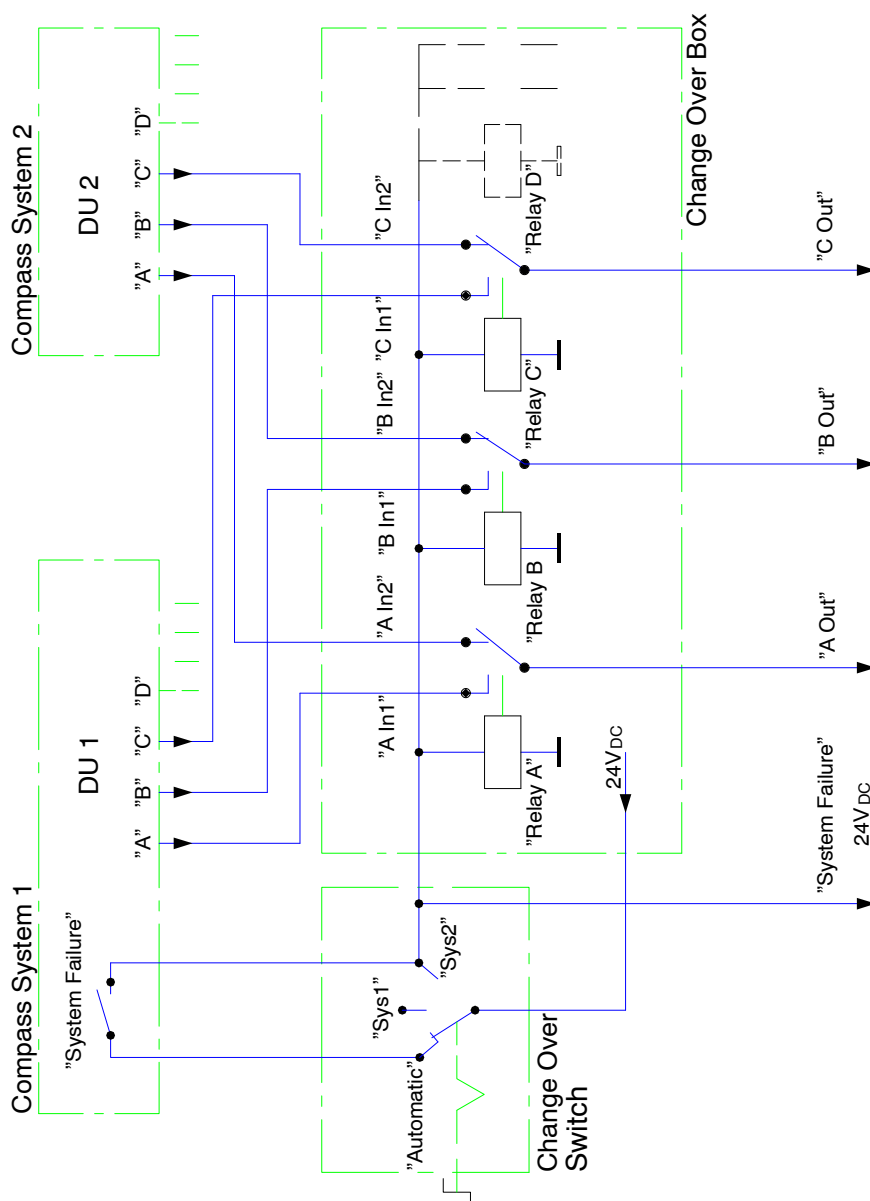

Figure 4: Principle of switching-over in the compass system STD 22
A.m. Figure 4 shows a principle of switch-over. The actual connections are shown in the appended wiring diagrams.
In the normal mode (switch position “Automatic”) the switching-over of the output signals of compass system 1 are carried out of the Distribution Box (DU1) via the Change Over Box (see Figure 4).
If the Change Over Switch is switched into position “Sys 1” manually, the signal outputs of the compass system 1 are carried out of the Distribution Box via the Switch Over Box (see Figure 4).
If the Change Over Switch is switched into position “Sys 2” manually, the signal outputs of the compass system 2 are carried out of the Distribution Box via the Switch Over Box (see Figure 4). The connection of the relay “System Failure” of system 2 (DU 2) via the Change Over Switch is not used. The 24 V DC potential is fed from the Change Over Box via the Change Over Switch and back again to the Change Over Box. All relays operate.